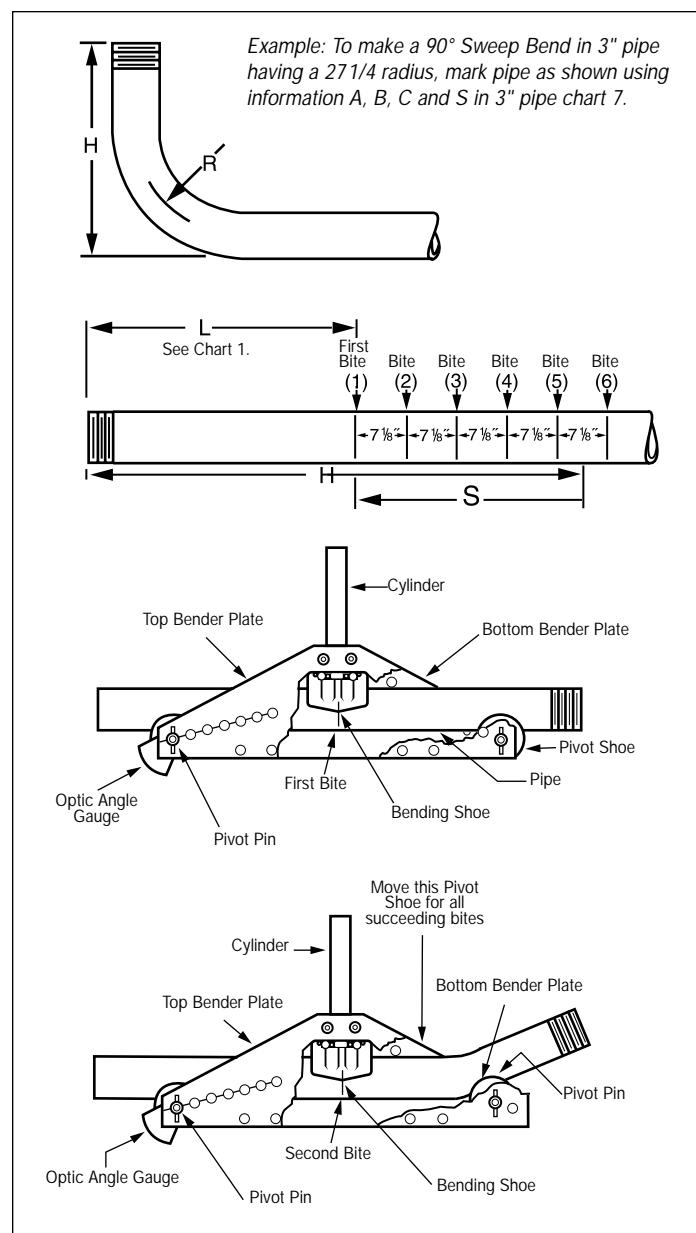

Figure 8, 90° Sweep Bend
- Mark desired stub-up (**H**) dimension on straight length of pipe (see Figure 8).